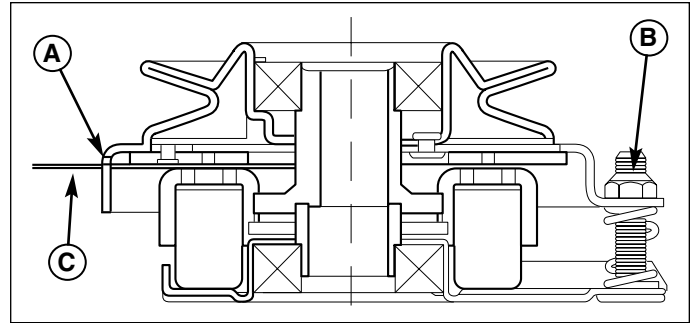

Figure 22. Adjust PTO Clutch
- Insert a .016"-.018" (0,40-0,45mm) feeler gauge (C) through each window, positioning the gauge between the rotor face and the armature face as shown in Figure 22.